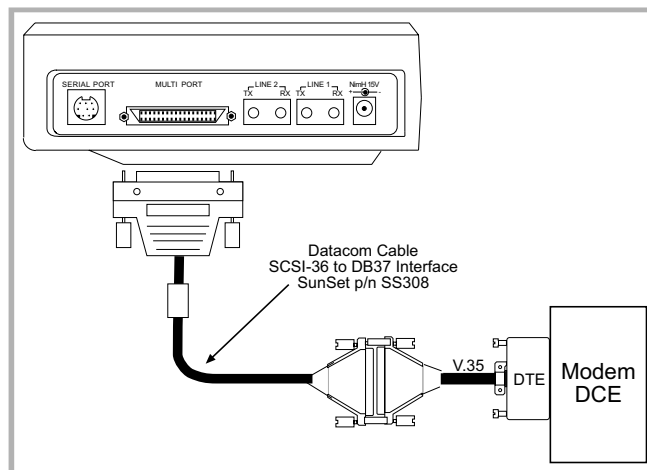

Figure 188 Modem Testing with Datacom
3. Connect the SunSet T10 to the modem as shown in Figure 188.